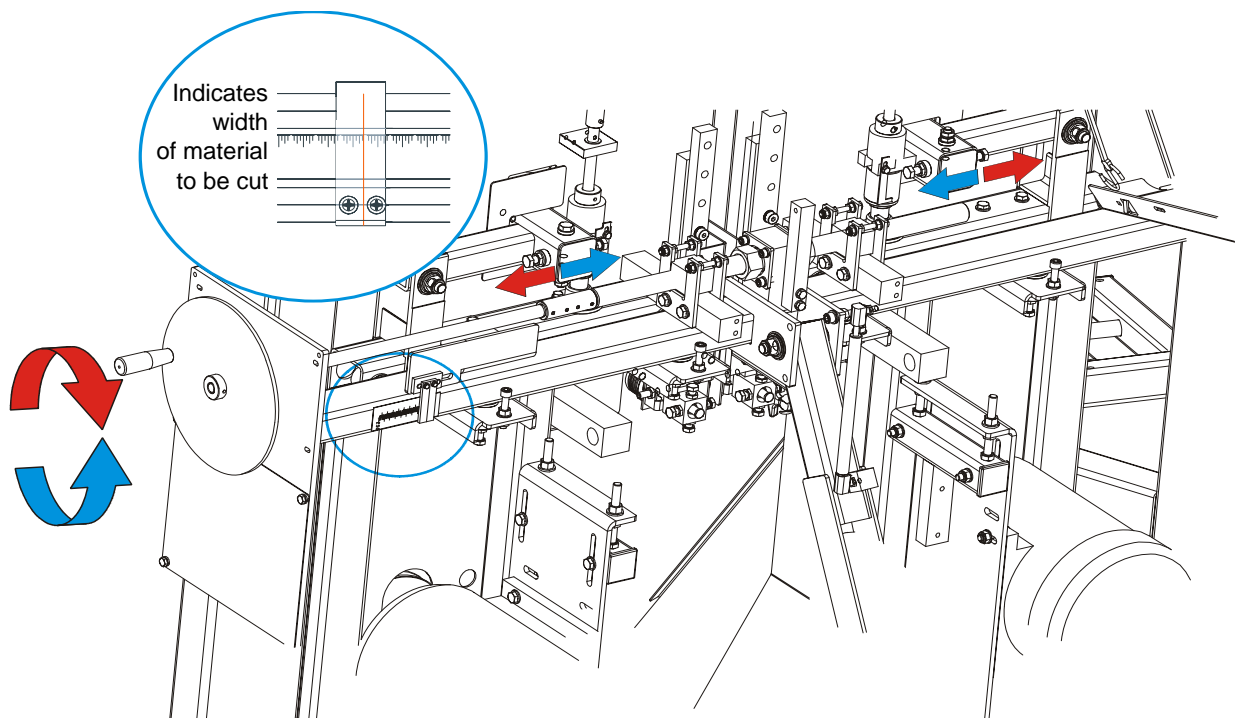

FIG. 2-8
**See Figure 2-8.** To move the saw heads in, turn the handle left. To move the saw heads out, turn the handle right.